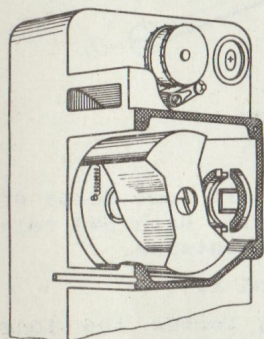

Fig. 28
1. Description (fig. 28)
- . Before mounting the cooling system in the shutter housing, remove the lacquer from all the surfaces of the projector with which the cooling system comes into contact, so as to ensure the best possible heat transfer. These surfaces are shaded in fig. 28.